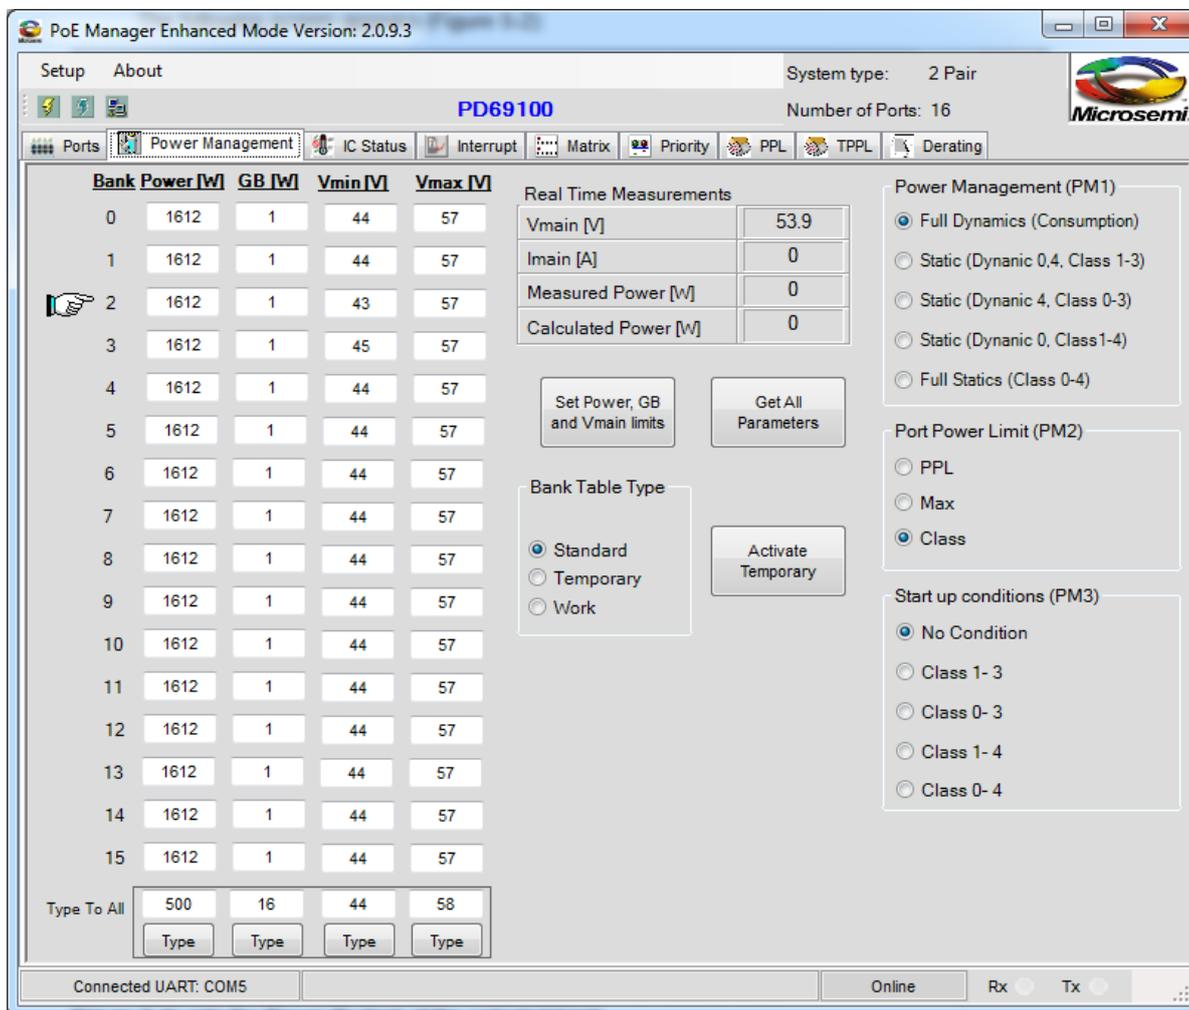

Figure 5-2: PoE Manager Enhanced Mode Window, Power Management Tab (EMO)
- On the PoE Manager Enhanced Mode window, click the **Power Management tab**. The following screen appears (Figure 5-2):